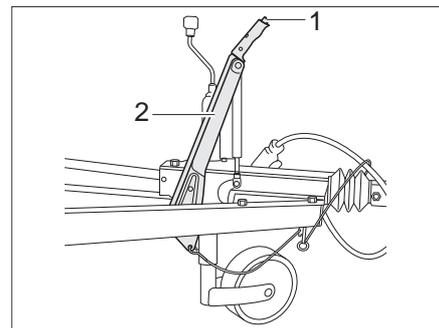

Fig. 14 Alternative: Handbrake
- In order to release it, press the securing button (Fig. 14,1) and lower the handbrake (Fig. 14,2).